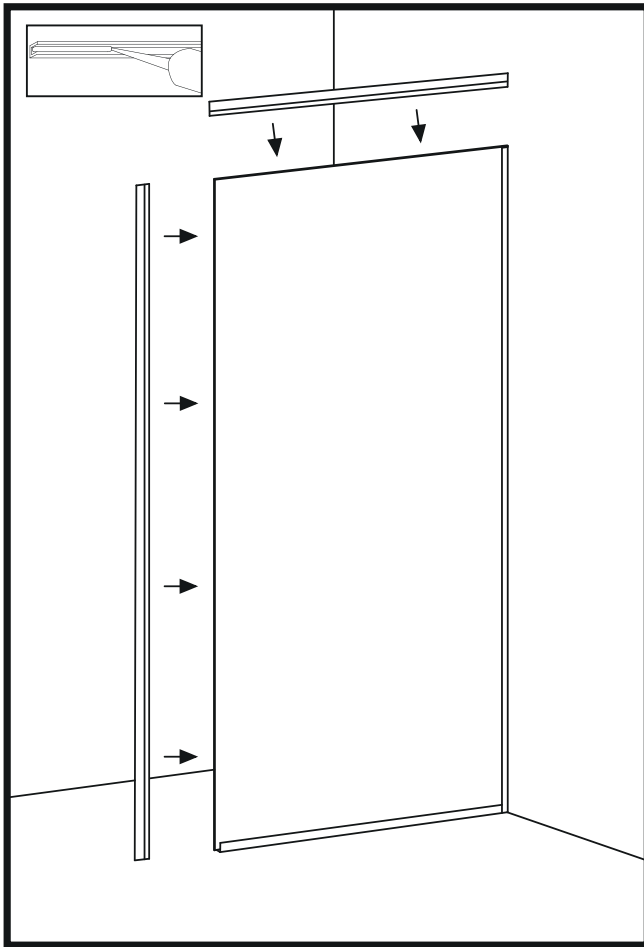

Figure 8
17. Check the fit of the U-profiles that have not yet been installed. Adjust the glass if necessary before the silicone dries. Use a level to ensure that the edge of the glass is vertically aligned. (Figure 8)